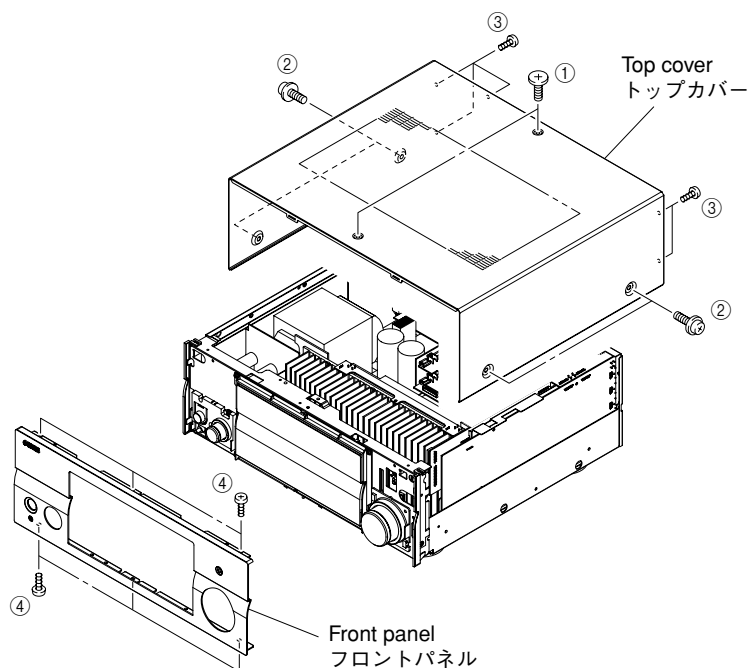

Fig. 1
(Fig. 1)
b. Slide the top cover rearward to remove it. (Fig. 1)
unit forward. (Fig. 1)
す。(Fig. 1)